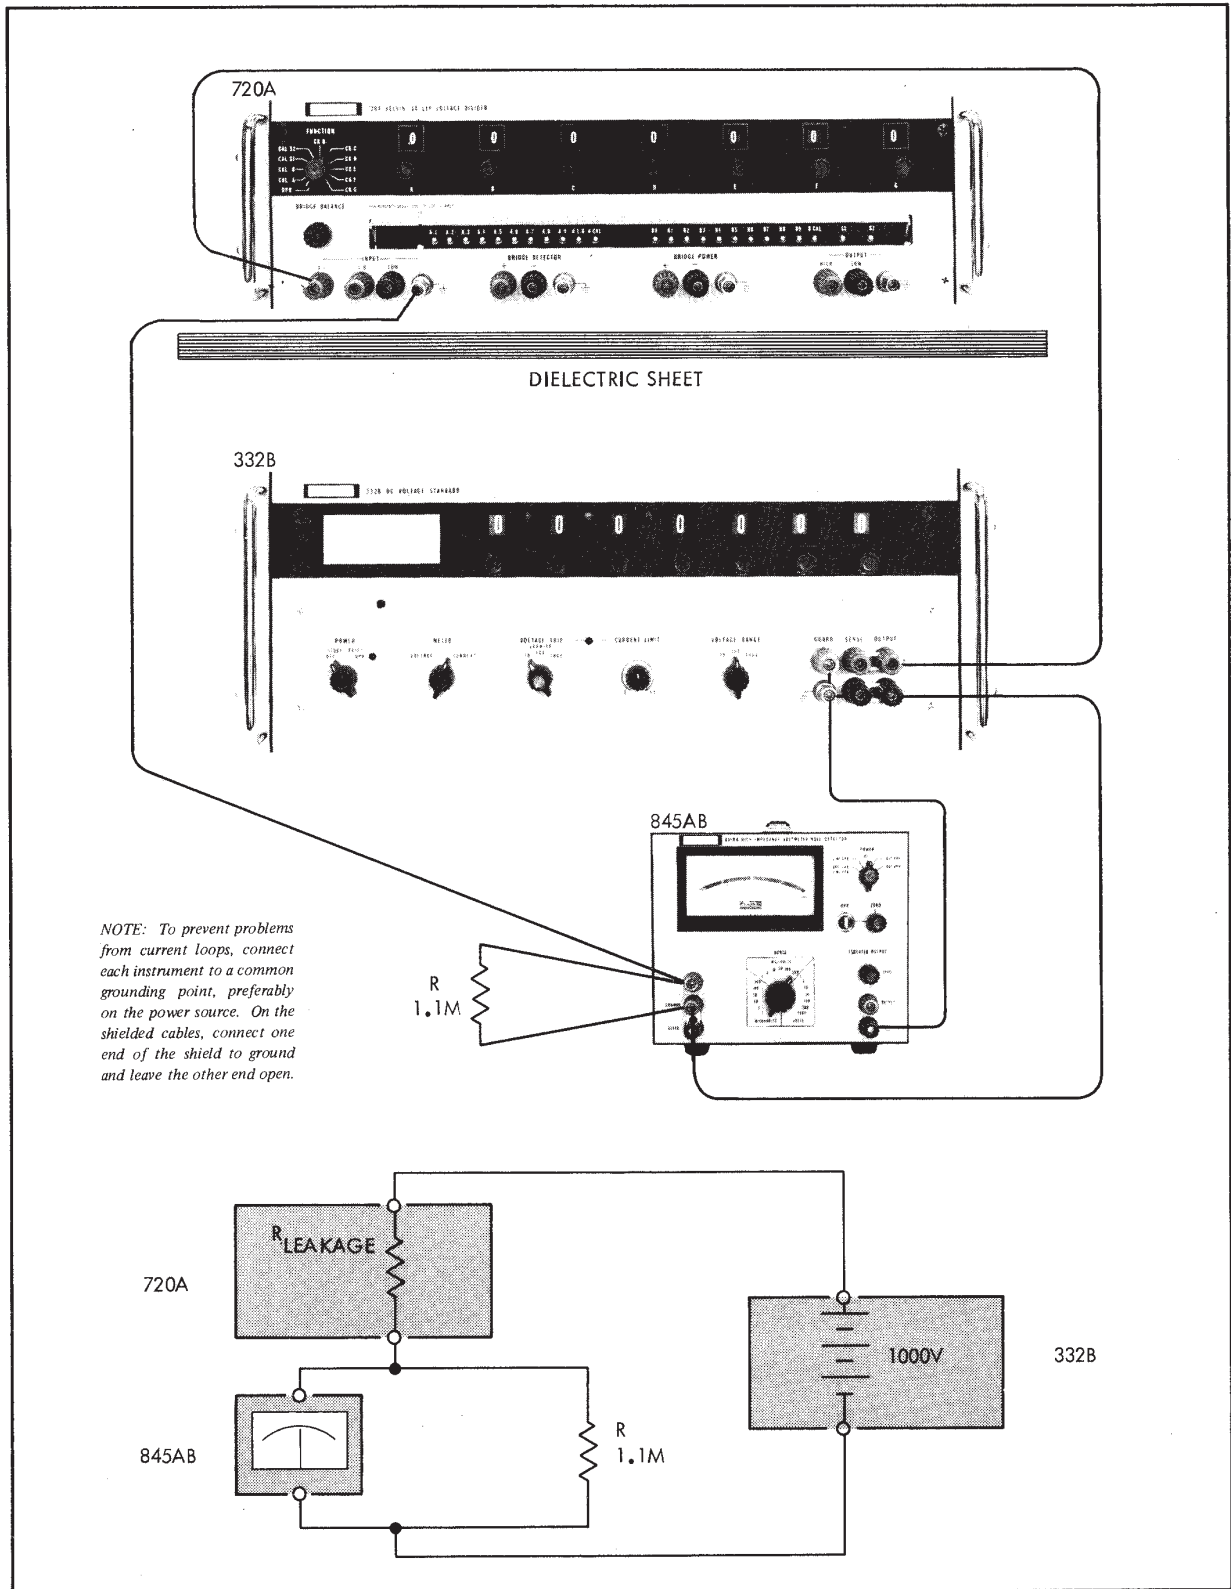

Figure 4-2. EQUIPMENT CONNECTIONS FOR LEAKAGE RESISTANCE TEST
- Use teflon insulated wire to connect the Model 720A, a 1000-volt source (Model 332B), and a null detector (Model 845AB) as shown in Figure 4-2.